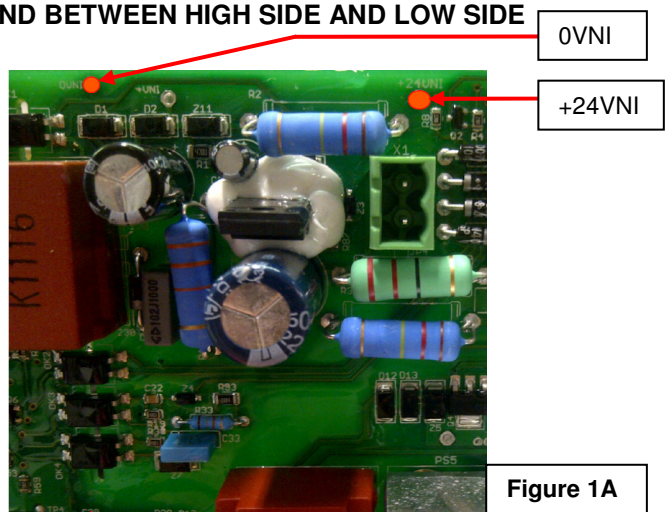

Figure 1A
7. Check for primary flyback power supply +24Vdc between the two test points +24VNI and 0VNI, see **Figure 1A**